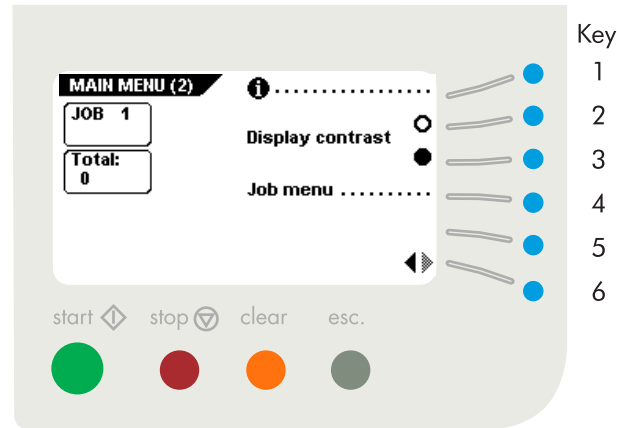

Fig. 9
The main menu consists of two menus, "main menu (1)" and "main menu (2)". After pressing key 6 in the "main menu (1)", the display will show the "main menu (2)", as shown in fig. 9.
- job information (key 1), press key 6 to go back to the "main menu (1)" (the job information function is available in all the menus where the symbol **i** is shown).
- go to the "other job" menu (key 2).
- go to the "test run" menu (key 3).
- go to the "counters" menu (key 4).
- go to the AutoSet™ menu (key 5) (only available if the system is equipped with the IntelliDeck™)
- go to the "main menu (2)" (key 6).
The "main menu (2)", as shown in fig. 9 shows 5 different functions:
- job information (key 1).
- display contrast lighter (key 2).
- display contrast darker (key 3).
- go to the "job menu" (key 4) (only for authorized personnel).
- back to the "main menu (1)" (key 6).